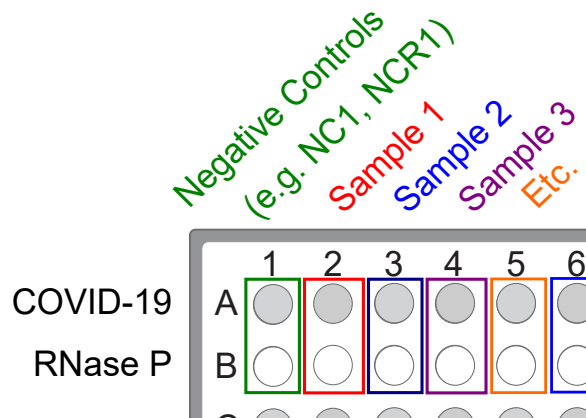

Figure 8 Paired sample and Negative Control wells for each assay
- b. Unseal the extraction plate, then add the Negative Control from the single well of the extraction plate to wells A1 and B1 of the reaction plate, as shown in Figure 8 on page 63.